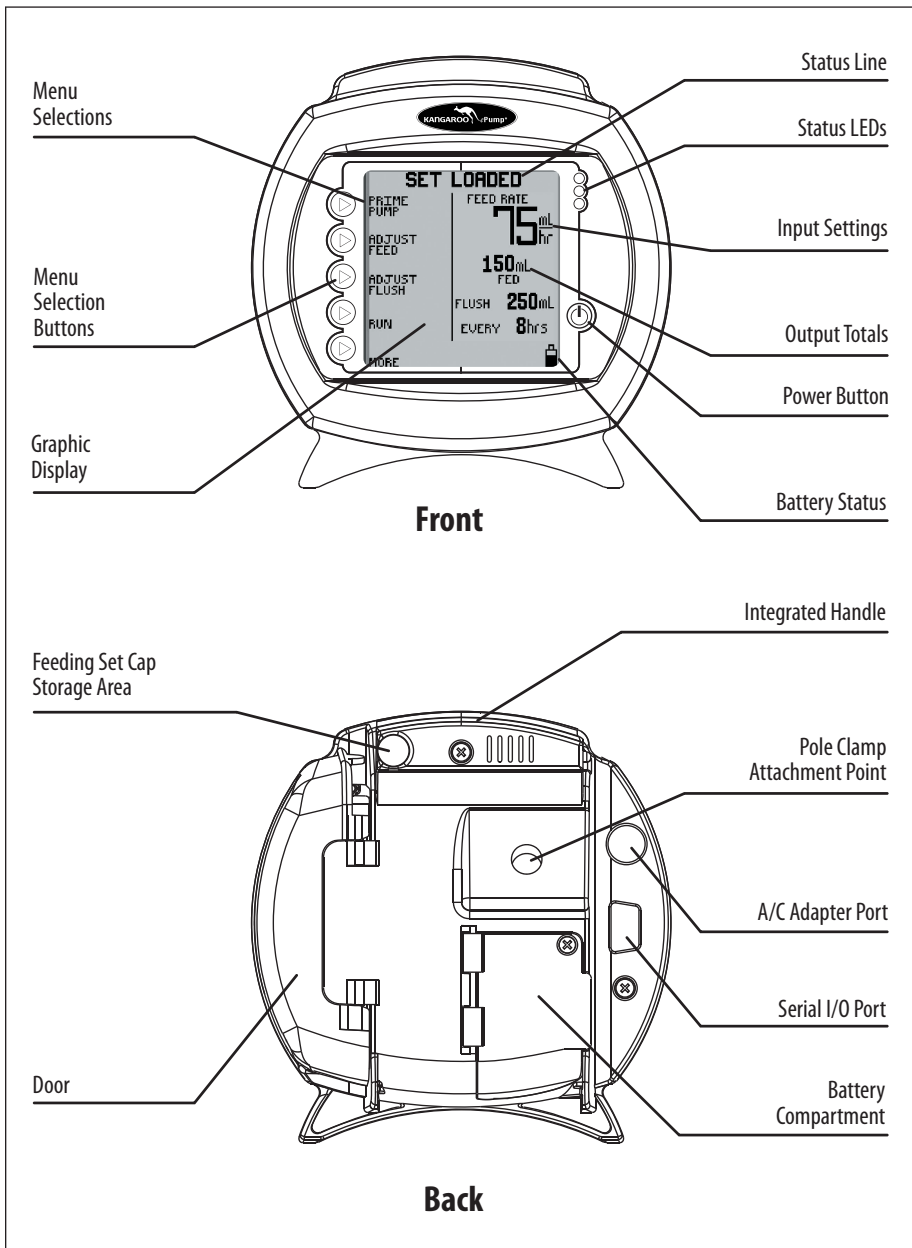

Figure 1A. KANGAROO ePump features, front and rear views.
13. **WARNING:** The DB9 serial I/O port (see Figure 1A) is intended only for use by the manufacturer.
Plug the Power Cord into the A/C Adapter Port on the back of the pump. See Figure 1A to locate port on pump. Make note of the location of the pins and tab on the plug to properly orient the plug.